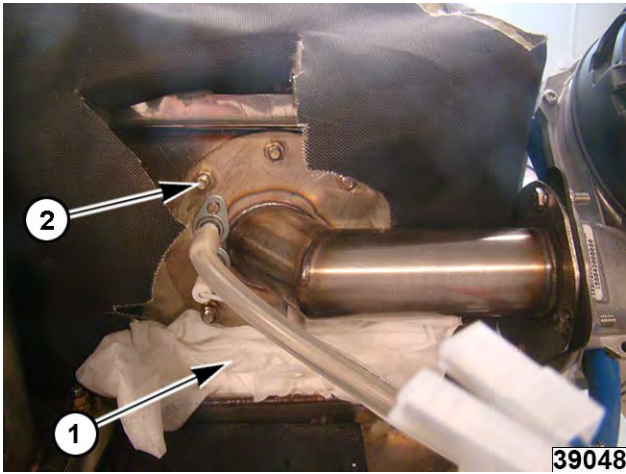

Fig. 102
NOTE: Place a clean rag (1, Fig. 102) over the open area to avoid nuts falling to where they can't be retrieved.
4. Remove (6) 8mm mounting nuts (2, Fig. 102).